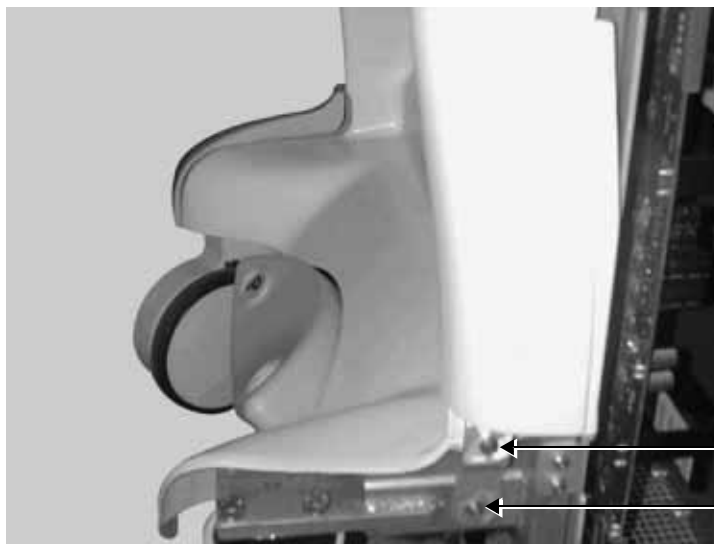

Figure 8-4 Front Cover Bracket Screws
- 3) Fasten the left and right brackets at the lower end of the front cover, one each side, by tightening each bracket with its two screws to the main metal frame, as shown in Figure 8-4 on page 8-5.